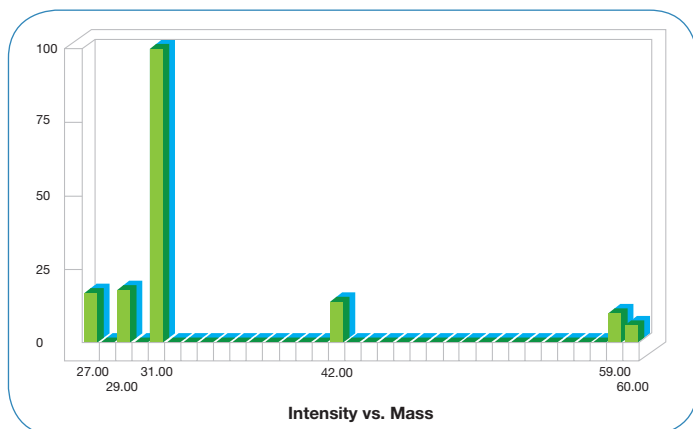
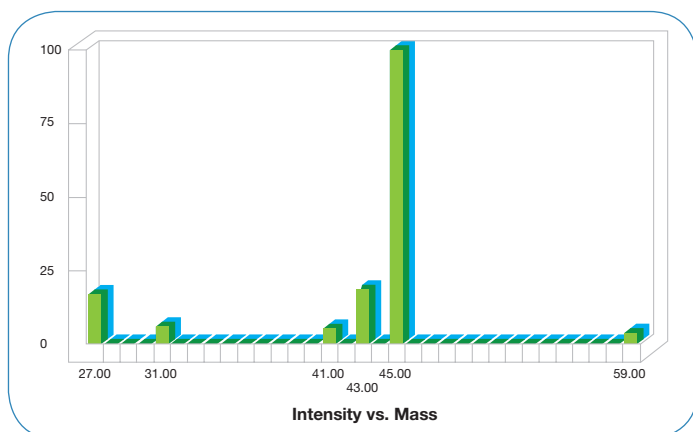

Figure 1.
Figure 2.
- Using the fragmentation patterns of the molecules in the mass spectrometer's ion source which are effectively 'fingerprints' to simplify the analysis of even complex mixtures; for example, figure 1 shows the fragmentation pattern for n-propanol while figure 2 shows that of iso-propanol.